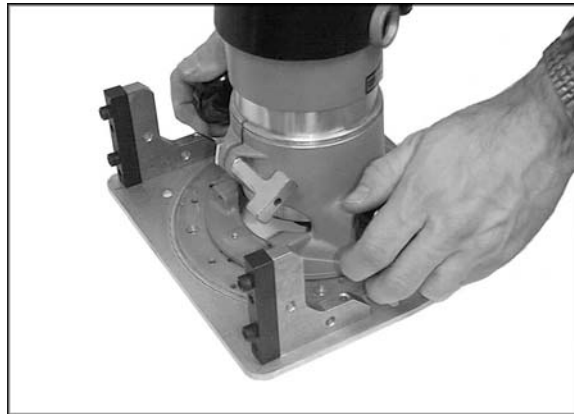

Figure 4
8. You must now re-attach the master ring to the aluminum carriage plate. With the carriage plate upside down in front of you, slide the master ring with router attached into place to engage the recess of the carriage plate (Fig. 4).